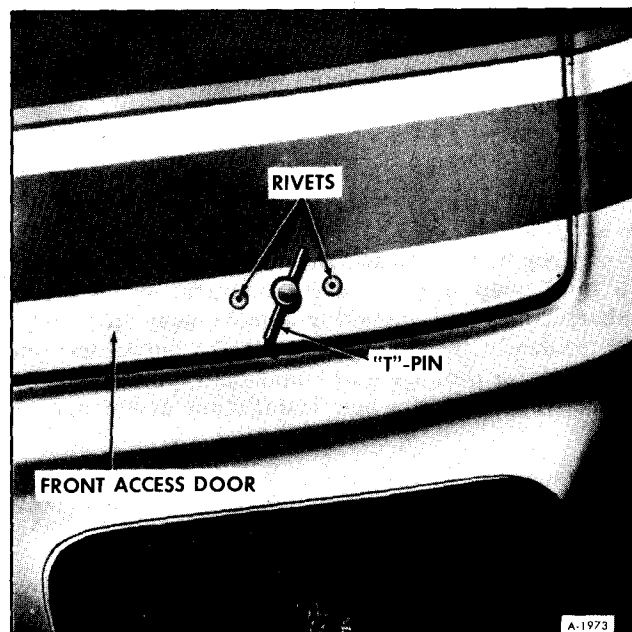

Figure 34—Front Access Door Latch
1. Drill out rivets (2) on each side of handle. See Figure 34.
2. Remove "T" pin. See Figure 34.